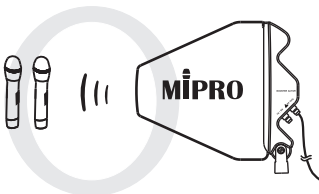

Fig. 4: Correct. Transmitter Microphones are facing the AT-90W.
- TX/RX Antenna Cable Connector ② can be connected with 10m antenna cable to MI-909T transmitters, AD-808 antenna combiner, any ACT-Series receiver or AD-708 antenna divider.
- RX Only Connector ① has to be connected to an ACT receiver or AD-708 antenna divider. When the receiver or AD-708 is powered on, the Power LED Indicator of AT-90W glows to indicate booster is active. Booster is inactive when Power LED Indicator does not glow when powered on.
- Adjust antenna's directional angel to proper position for best performance result. Fig. 4, 5